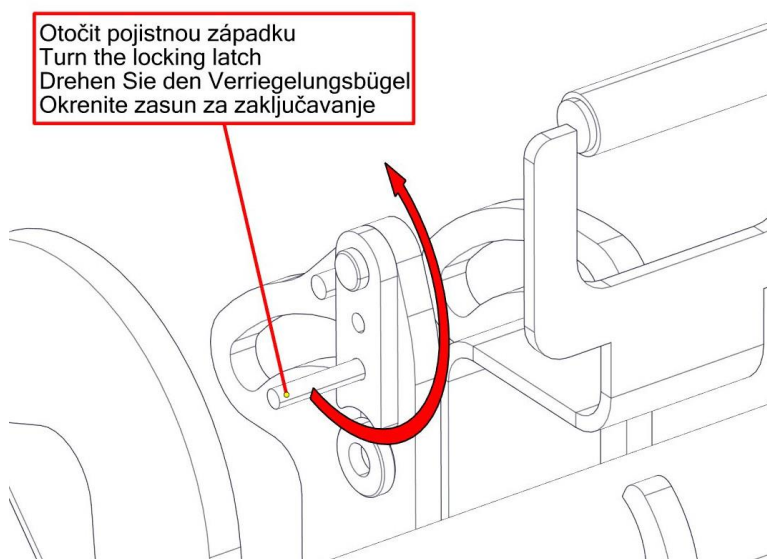

Fig. 21
- turn the lock in the open position – Fig. 21